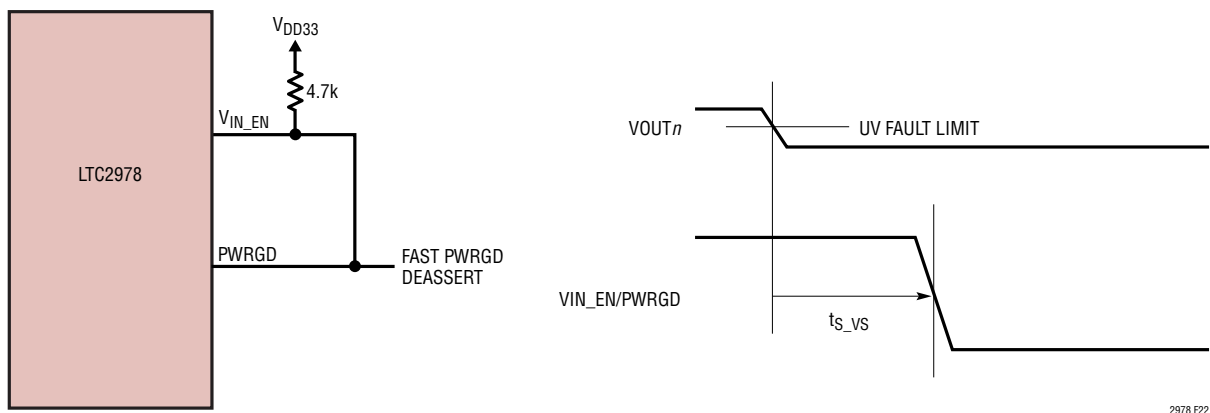

Figure 22. PWRGD Deassert
- A fast deassertion of PWRGD may be implemented by wire ANDing the  $V_{IN\_EN}$  pin with the PWRGD pin. If, for example, a UV or OV fault threshold is crossed,  $V_{IN\_EN}$  will pull low if the associated bit in the MFR\_VINEN\_UV\_FAULT\_RESPONSE or MFR\_VINEN\_OV\_FAULT\_RESPONSE register is set. See Figure 22.